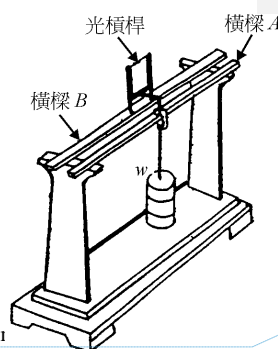

Fig. 2
已註解 [t5]: Shown in Fig. 2, but I cannot find the term for it.
- As shown in Fig. 2, place two beams horizontally on the two **cutting edges** of the **three-in-one stand**, where A as the beam being tested. Hang the hook from the middle of Beam A, which will be used to attach the **scale pan and weights**.